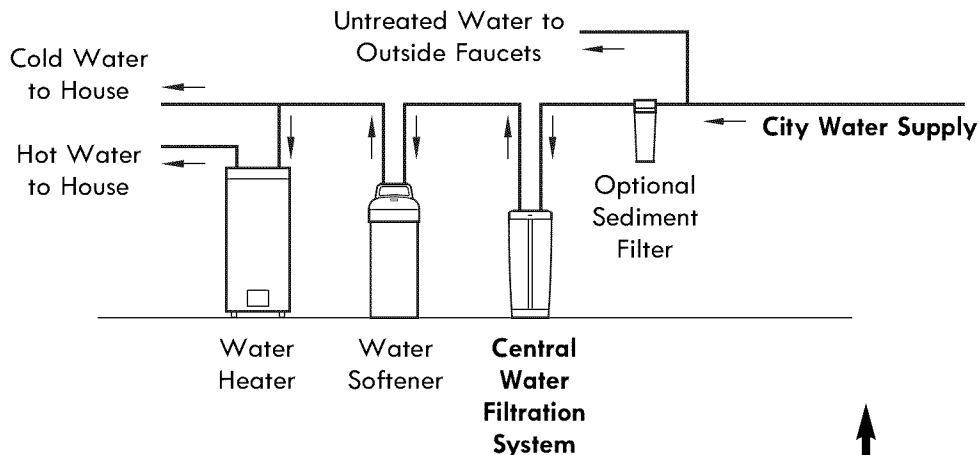
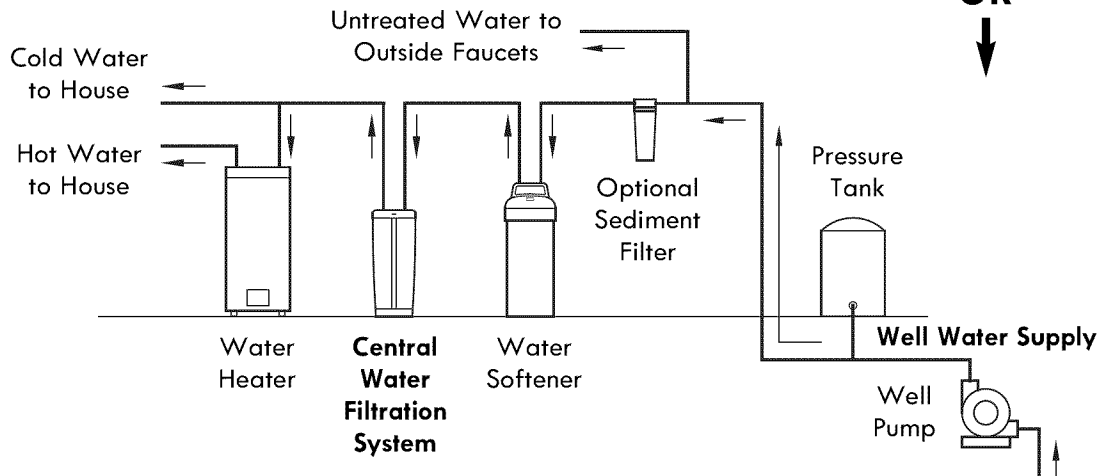

Figure 2A
Figure 2B
- For a home with municipal water supply, install the Central Water Whole Home Filtration System between the home's incoming water supply and the water softener, if one is being used (See Figure 2A). If the home has well water, reverse the order of the Central Water Filtration System and the water softener (See Figure 2B).
- Do not install the Central Water Whole Home Filtration System on a hot water line (See Figures 2A & 2B below).